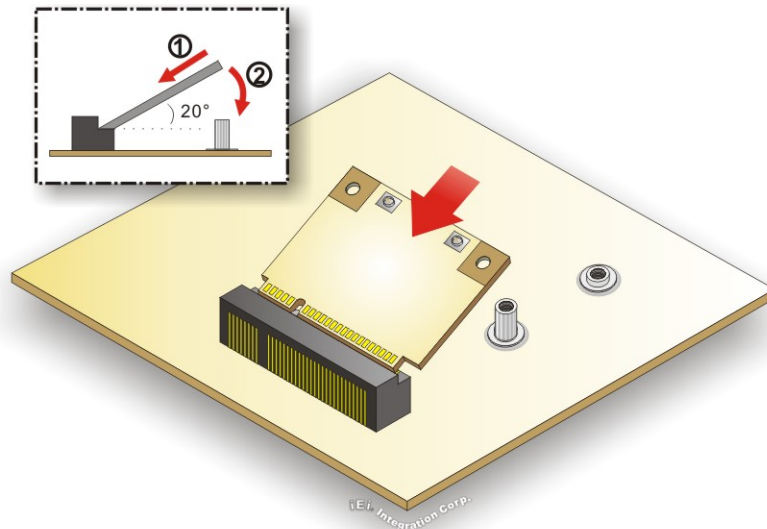

Figure 3-14: Inserting the WLAN Module
Step 6: Line up the notch on the WLAN module with the notch on the slot. Slide the WLAN module into the slot at an angle of about 20° (Figure 3-14).